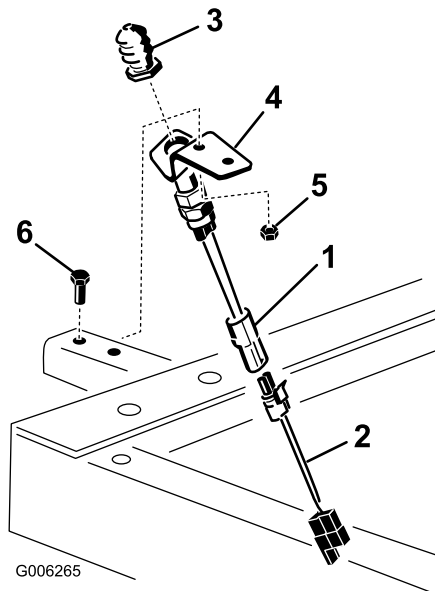

Figure 11
8. Remove the rubber boot and the top jam nut from the button end of the new PTO switch (Figure 11).
secure it to the bracket with the jam nut. Position the switch as shown in Figure 11.
10. Mount the switch bracket to the underside of the frame mounting bracket with (2) cap screws and nuts. Position the bracket as shown in Figure 11.
13. Connect the wire harness adapter to the switch wire harness (Figure 11).
14. Reinstall the rubber boot to the top of the switch (Figure 11).